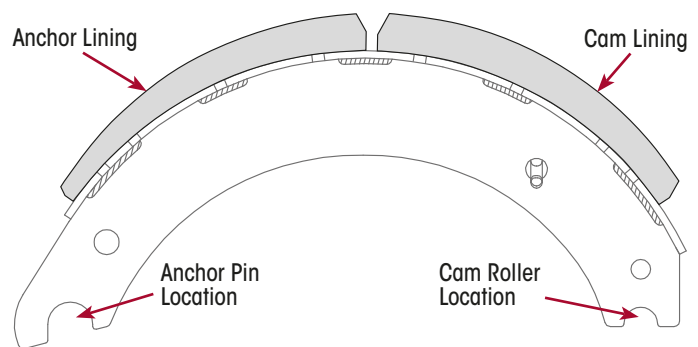

Figure 57: Brake Lining Position
2. Place both linings onto the shoe to check form and fitment. Ensure cam and anchor linings are placed in the correct position. Refer Figure 57.